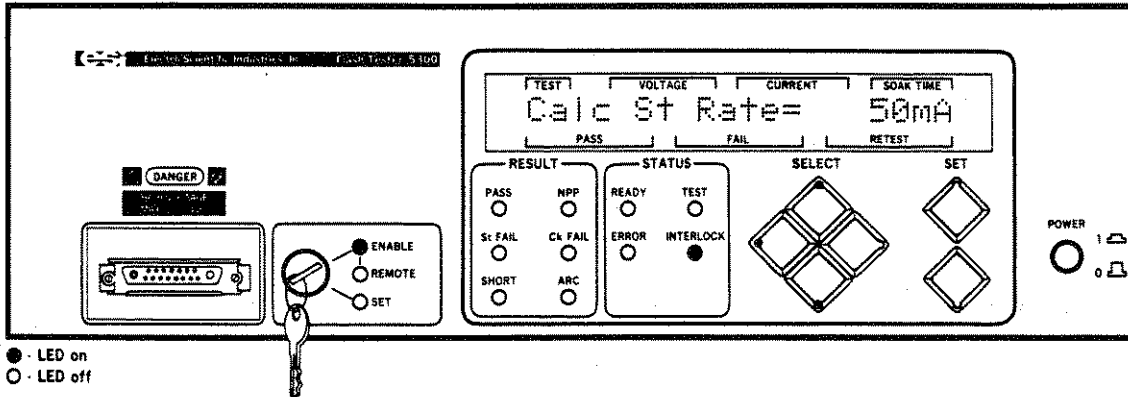

Figure 3-20. Calculated Stress Current Display
STEP 6. Press the RIGHT pushbutton. The LEFT, UP, and DOWN LEDs should illuminate and the RIGHT LED should turn off. The display will show one of the Detail screens. Figure 3-20 is an example of one of these screens, the Calculated Stress Current display. For more information, refer to Detail Screens, Section 3.4.3.7.